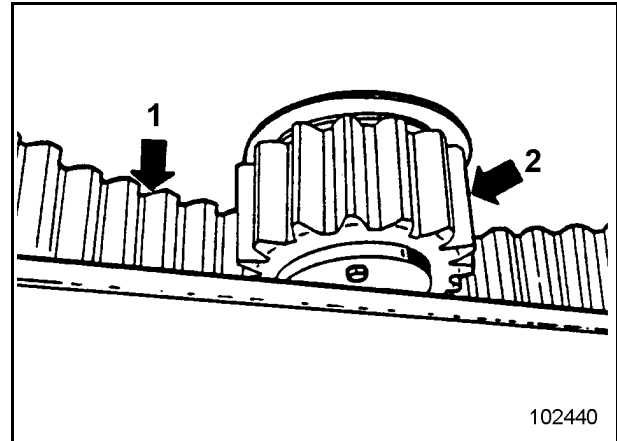
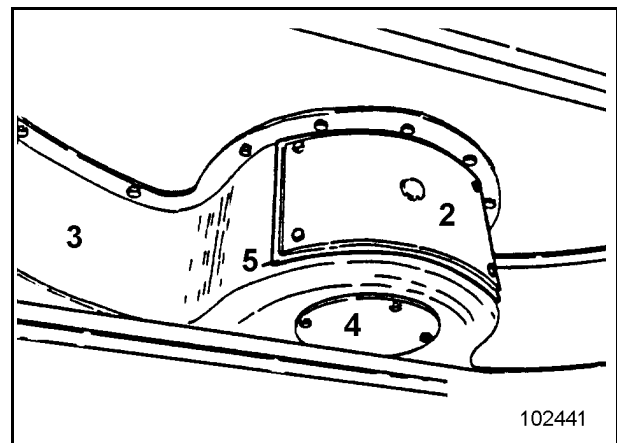

Fig. 3-125:
Fig. 3-126:
The internal gearing (1, Fig. 3-125:) and the pinion (2) are enclosed in a housing (3, Fig. 3-126:). The housing forms a grease-filled trough in which the pinion of the slewing mechanism moves.
The housings have a check opening which is closed with a cover (2, Fig. 3-126:). For checking, the cover must be removed.